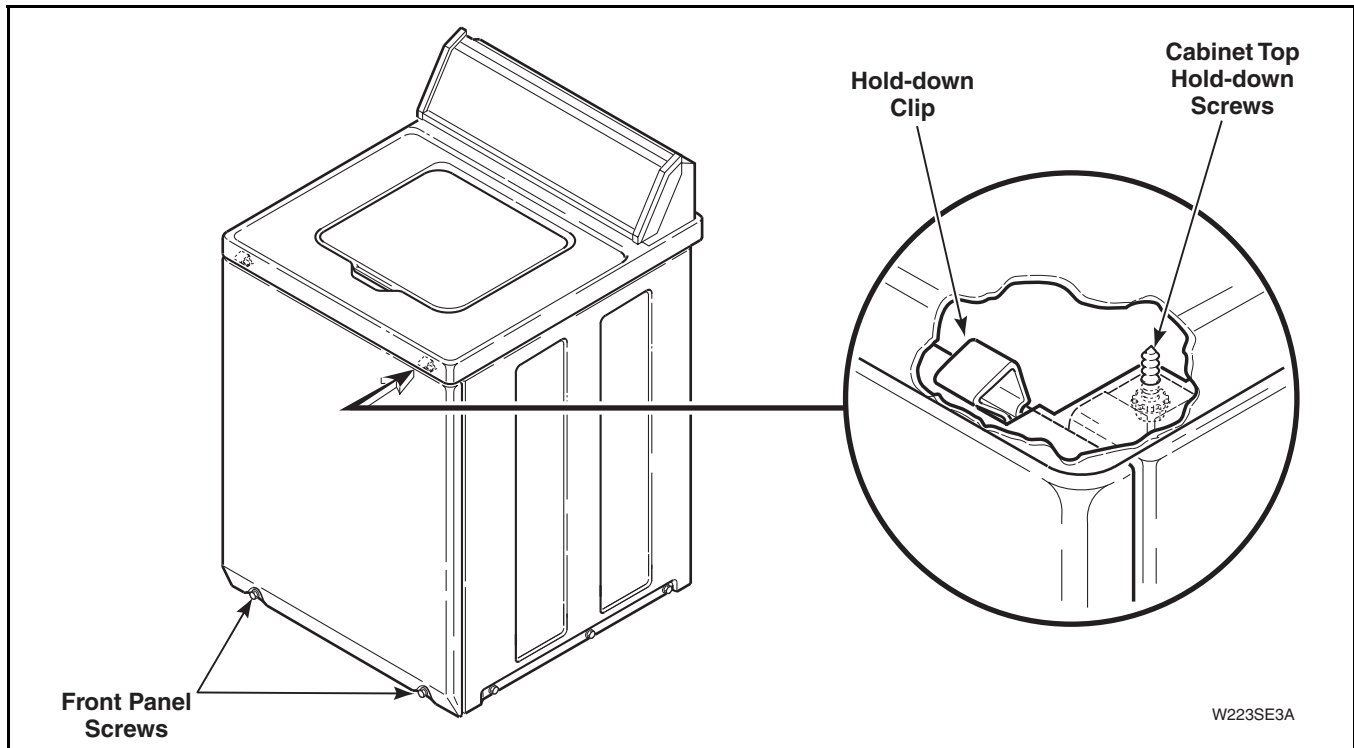

Figure 20
Refer to *Figure 20*.
- a. Remove two screws from bottom edge of front panel. Refer to *Figure 20*.